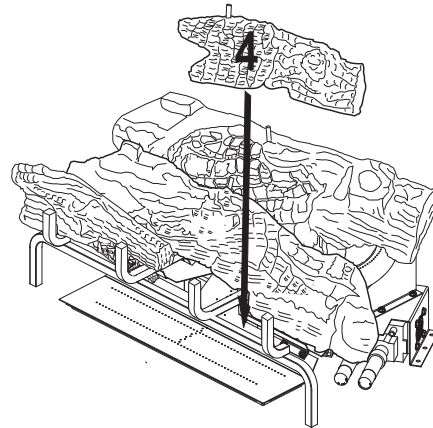

Figure 25 - Installing Log #4
- Place the front right log (#4) onto the base assembly between the middle log (#2) and the grate. The back of the front right log (#4) will rest against the front of the middle log (#2). The notch in the end of the front right log (#4) will fit around the grate bar. See **Figure 25**.